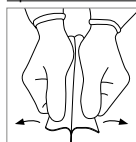

Figure 1
- Break the orange sterility seal, then open the outer PE-paper pouch as shown in Figure 1, and present the sterile inner PE-paper pouch to the sterile user for sterile removal.